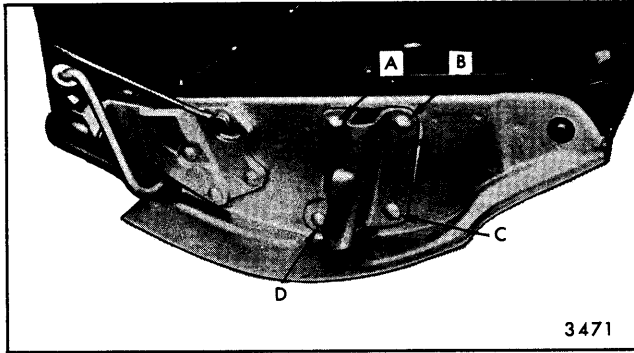

Fig. 9-28—Tail Gate Left Lock Assembly - "B" Body
2. On "B" body styles, bolts A, B, C & D (Fig. 9-28) are all retained by nuts accessible through tail gate inner panel. On "A" body styles, bolts A & B fit into a tapping plate and bolts C & D are retained by nuts. In either